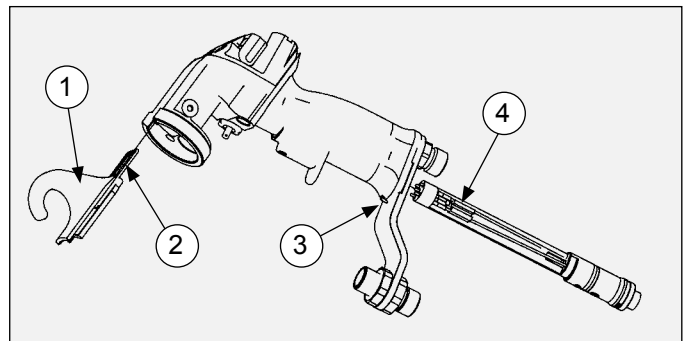

Figure 33: Hook and Plug Assembly Removal
11. Place the six (6) spring washers onto shaft with the first, third, and fifth ones concave (cupped) side forward. The second, fourth, and sixth ones should be cupped side rearward (see Figure 33).
➤ All six (6) spring washers **MUST** be replaced alternately as shown in Figure 33, or the applicator will malfunction.